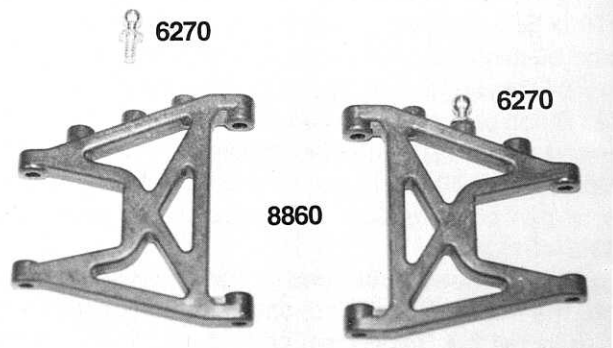

Fig. 68
□ **Fig. 68 & 69** 1) Now open bag #8-8 which has all the rear end parts. Remove the two #8860 rear suspension arms, two #8862 rear inner hinge pins, two #8864 rear outer hinge pins, the #6360 rear suspension mounts, and four #6299 1/8" E-clips. Remember, the E-clips will be a very small roll held together with white tape.
6) Now trim the mold runner that connects the #6360 rear suspension mounts together. 7) Each rear mount has 1.5° of rear toe-in built in, giving the car a total of 3° of rear toe-in. This means there is a right and left mount. These can be identified by looking for the "R" and "L" molded into the bottom of the mounts. To make sure that everything is laid out correctly, the front of each mount is thicker than the back when looked at from a side edge view. Lay them out according to fig. 68 when you have everything identified.